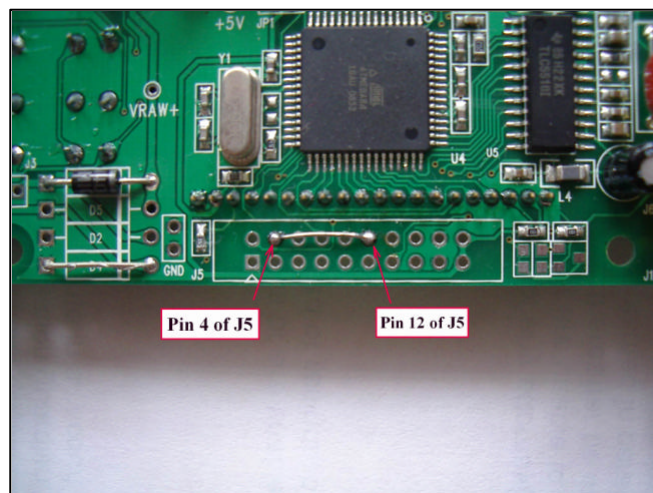

Fig. 2
- 2) Connect to the 500Hz Test Signal output terminal. In order to be able to do so pin 4 of J5 must be shorted to pin 12 of J5 (Fig. 2). When pin 4 and pin 12 of J5 are shorted the 500Hz test signal output will be automatically disabled as long as external trig source is selected.